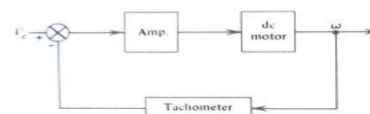

Figure 4-11 Typical machine drive unit
A simple control loop containing a dc servomotor, amplifier, and tachometer is shown in Fig. 4-11. This loop is referred to as the machine drive unit and is contained
- simple control loop containing a dc servomotor, amplifier, and tachometer shown in Fig. 4-11. This loop is referred to as the machine drive unit and is contained